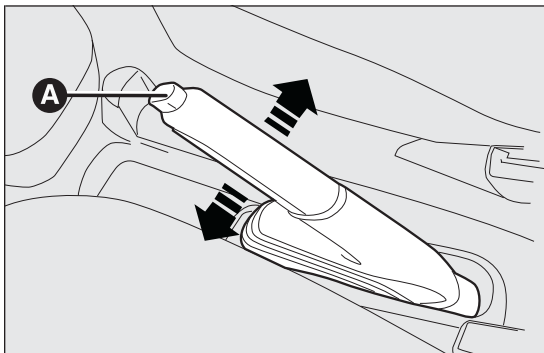

fig. 113
The handbrake lever fig. 113 is located between the two front seats.
- ☐ slightly lift the handbrake and press release button A fig. 113;